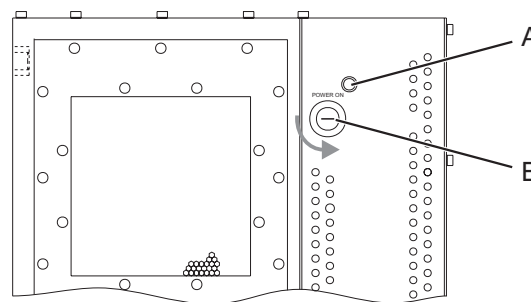

Figure 36: Disabling power circuits
2. Turn the key in the key switch counter-clockwise from the “I” to the “O” setting (see Figure 36, B).